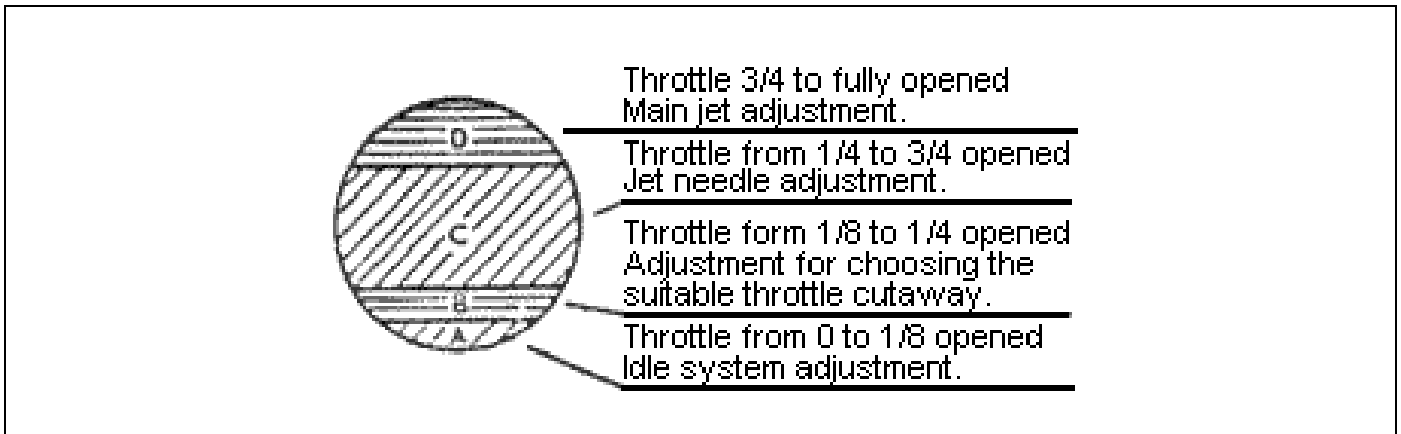

Figure 1
- FIGURE 1 – PROVING DIAGRAM OF THE DIFFERENT RUNNING PHASES
(Throttle valve opening corresponding to the section A – Fig. 1) It is necessary first of all to bear in mind that this adjustment must be established always when the engine has reached its normal running temperature.
(Throttle valve opening corresponding to the section B – Fig. 1).
1. If opening gradually the throttle valve for a space corresponding to the part B – fig. 1 the engine running is normal, it means that the throttle valve is suitable.
(Throttle valve opening corresponding to the section C – Fig. 1).
In order to have the possibility to adjust the jet needle there are on it 5 grooves or holes (the numeration is starting from the top as follows: 1-2-3-4-5). The jet needle checks the carburation for a throttle valve opening corresponding to the section C – Fig. 1.
(Throttle valve opening corresponding to section D – Fig. 1).
The influence of the main jet is especially felt in the throttle valve opening corresponding to section D – Fig. 1. It is therefore in this field that it is necessary to operate in order to establish if the main jet fitted is the most suitable one, and precisely: